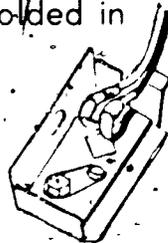

FIGURE 10
- h Fold leads into rectifier box and mount on starter or engine (Figures 10 and 11)